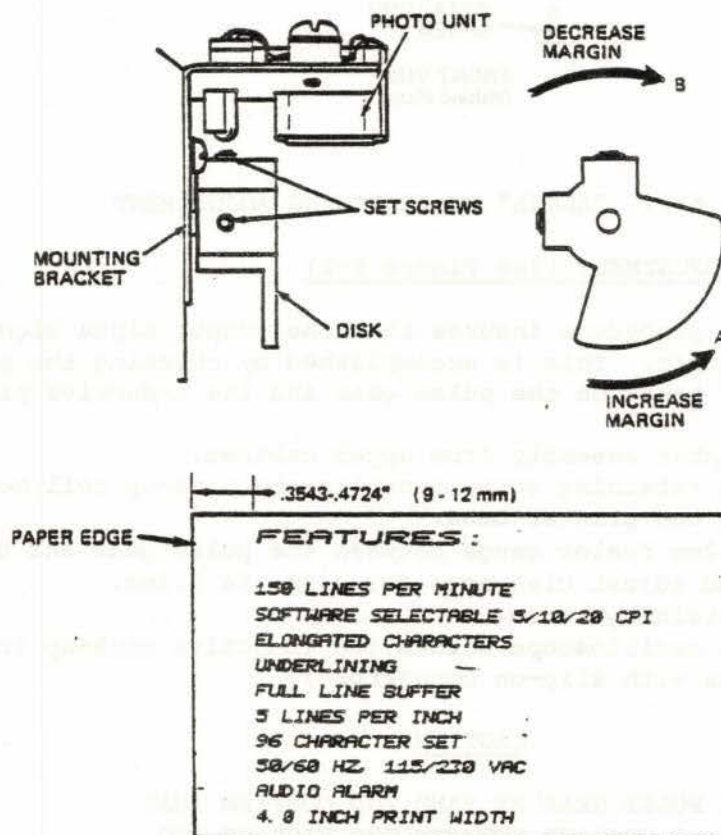

Figure 6-3. "BETA" PULSE TIMING ADJUSTMENT
6.4 BETA SIGNAL ADJUSTMENT (See Figure 6-3)
- (1) Print a sample page and measure the distance from the left edge of the paper to the first printed character.
- (2) If adjustment is necessary, remove printer assembly from cabinet.
- (3) Loosen the two set screws securing the disk to the mounting bracket.
- (4) Move the disk clockwise slightly to decrease the margin (B in Figure 6-3) or counterclockwise to increase (A in Figure 6-3). Rotation is as viewed from the rear.
- (5) Tighten set screws and repeat steps (1) through 4) as required to obtain the correct margin.
- (6) Replace printer assembly.